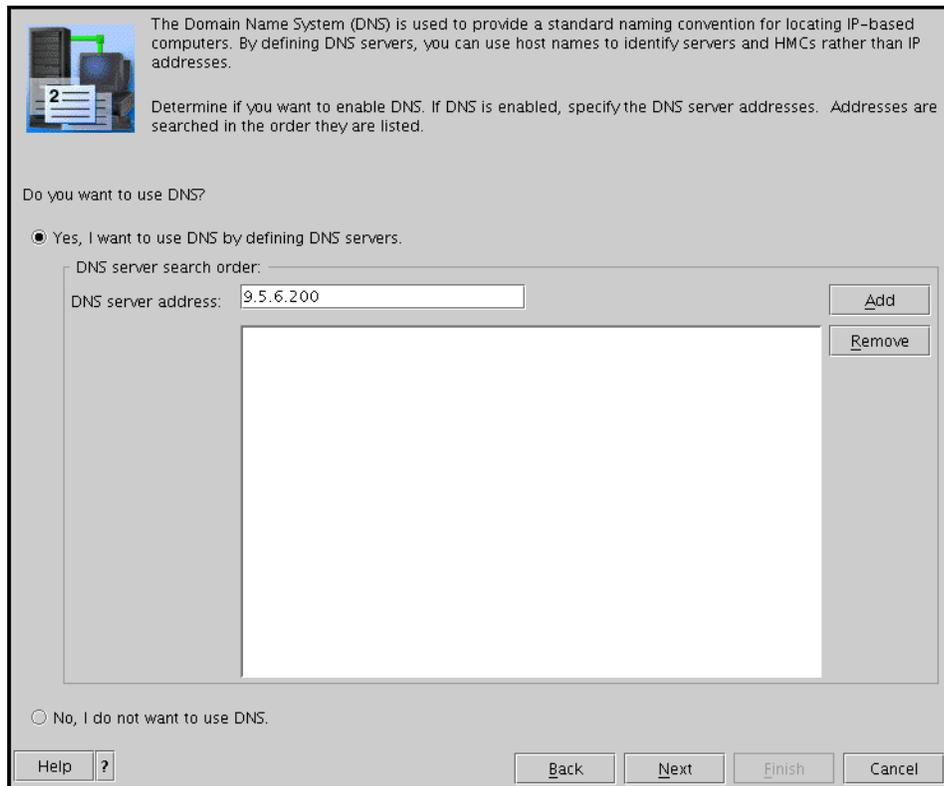

Figure 4-12 HMC Guided Setup wizard - Configure DNS
12. The Guided Setup - Configure DNS panel is now shown (see Figure 4-12).